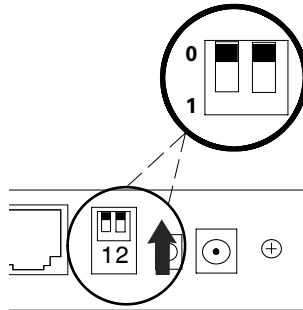

Figure 5. Verify DIP Switches
1. Verify that both DIP switches on the adapter are set to the **0** (off) position (see Figure 5).